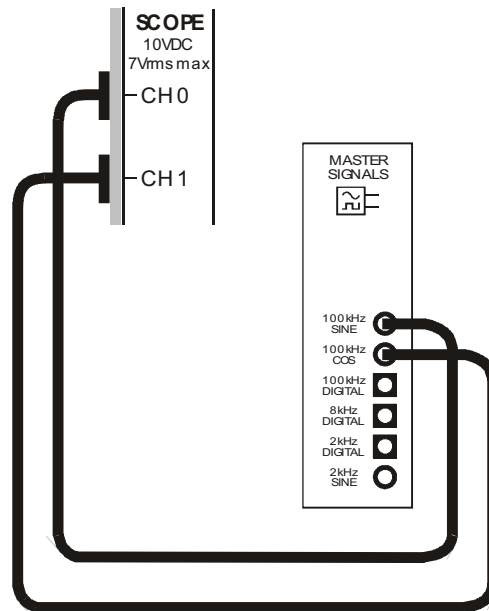

Figure 3
7. Connect the set-up shown in Figure 3 below.